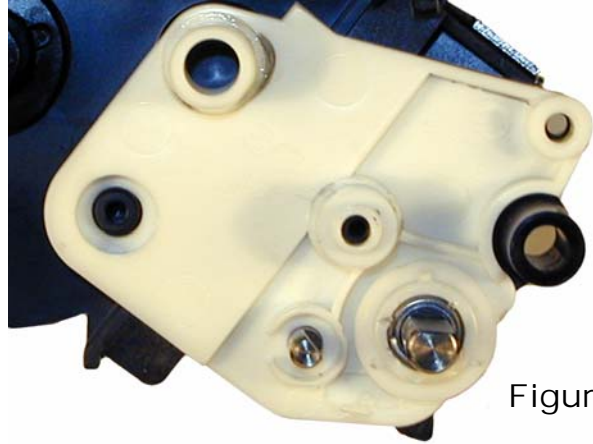

Figure 53
47) Install the bearing onto the developer roller shaft, gear side of the hopper. See **Figure 53**